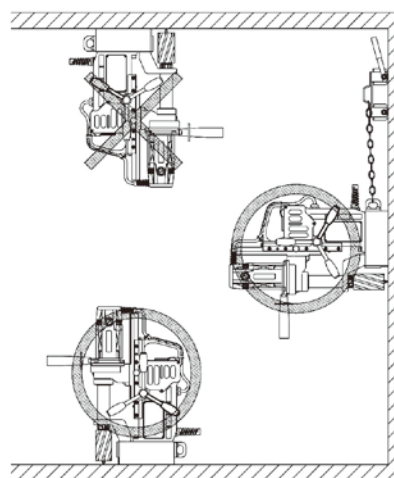

Fig. 1
- Use of the portable drilling machine on the ceiling is dangerous. The machine could fall. The falling machine could cause severe injuries or death. (Fig.1)